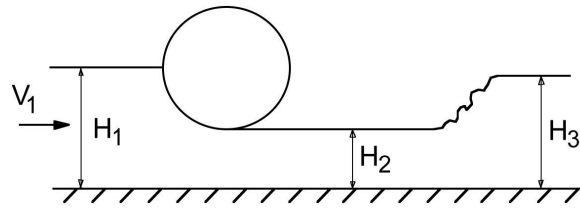

Figure P10.55
10.55 An oil boom of width w is placed in a river to catch oil drops on the surface of water of density ρ flowing in a shallow river, as shown in Figure P10.55.